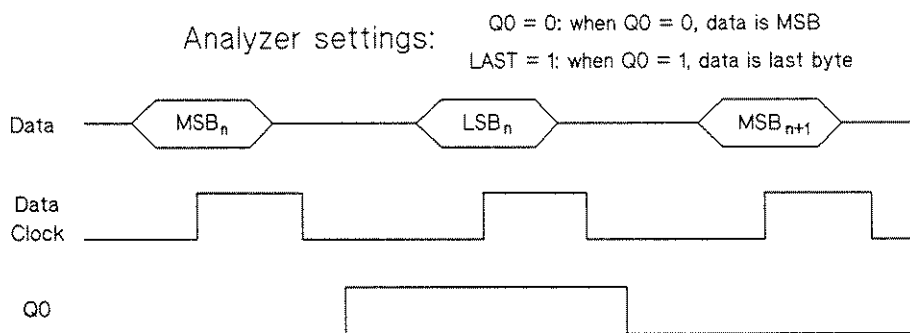

Figure 13-22. Example: Transfer MSB First
When a channel is providing the sample clock, the LAST I/O softkey (appears in the DATA CLOCK menu when bus size is 8 bits and data size is 16 bits) is used to designate the end of a two-byte transfer by specifying the state of Q0 for the last byte. Otherwise, the data word is composed of the last two bytes clocked into that channel before the sample clock. These two settings (values of Q0 and Last) allow the two bytes to be read in either order as well as allowing either state of Q0 to indicate MSB. See the following examples and figures 13-22 and 13-23.
2. Make sure that LAST 1/0 is set to 1. If LAST 1/0 is set to 0, the LSB of one data point will be matched with the MSB of the next data point. This step is needed only if the channel in use is supplying the sample clock. See figure 13-22.